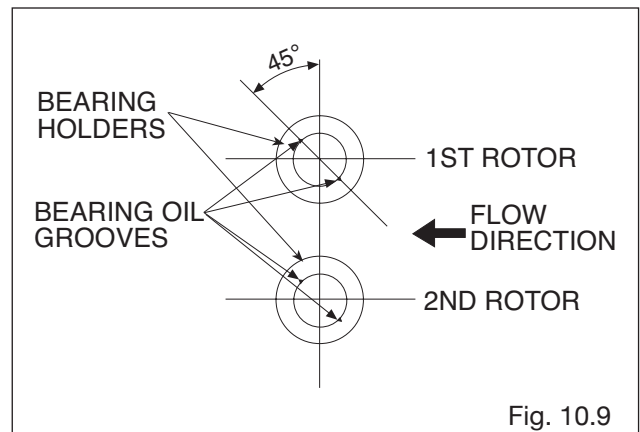

Fig. 10.9
- (1) Bearings (207) and blind covers (104) on the rear cover should be installed before the rotors are installed.
2. The orientation of oil grooves (V-grooves) in the rotor bearings should conform to Fig. 10.9.
3. Install rotors in line with non-turn bolts (213) of the bearing holder.